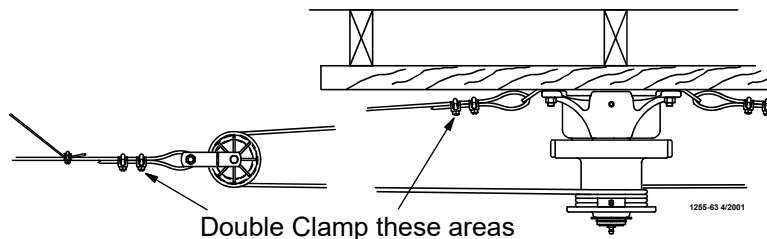

Figure 9. Double back arrangement for feed lines over 350' [107 m]
3. Extend the 3/16" [5 mm] Main Winch Cable the full length of the feeder line. Attach the cable temporarily to the ceiling with nails, staples, or some type of fasteners. **Figure 9** shows a double back arrangement for feed lines over 350' [107m]